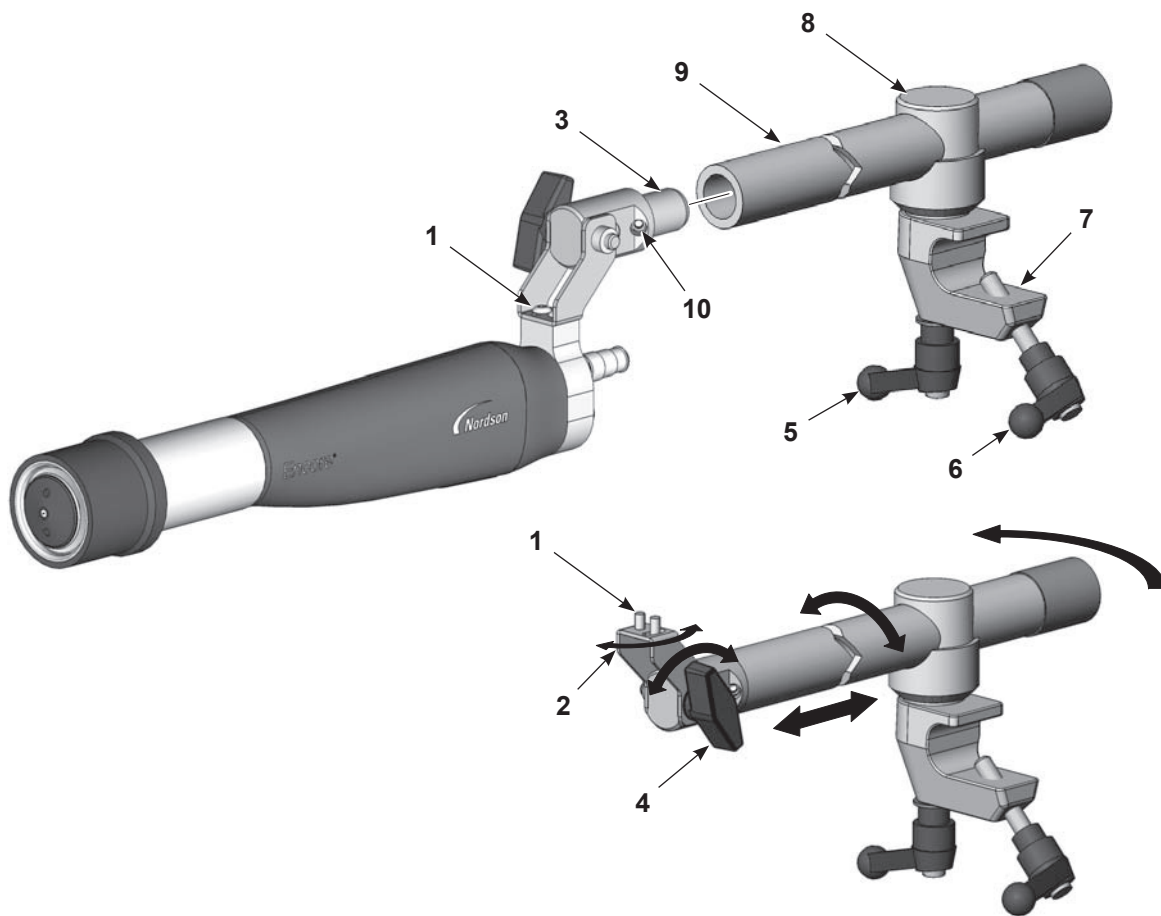
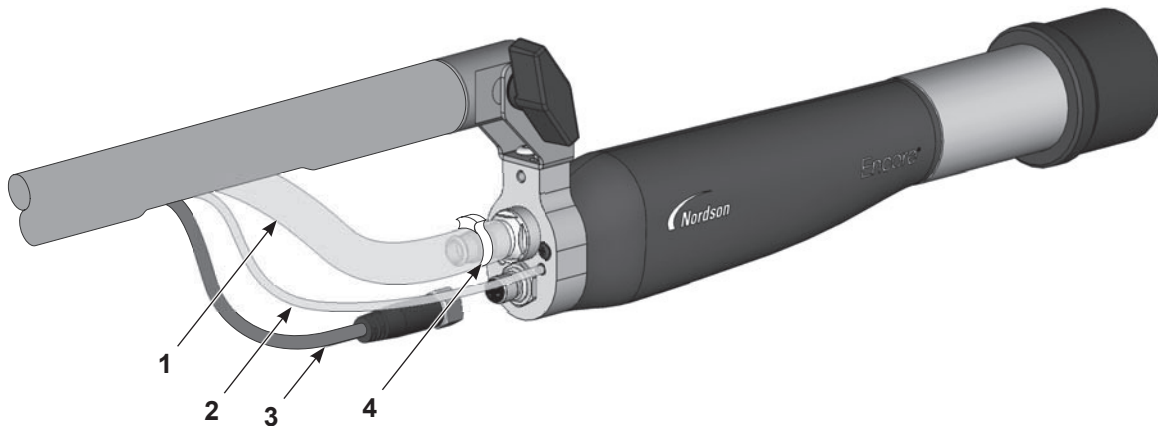

Figure 3 Standard Articulated Bar-Mount Gun Mounting
Figure 5 Gun Connections
1. See Figure 3. Install the tube adapter (3) into the end of the adjusting rod (9) and secure it by tightening the set screw (10) with a 4-mm hex key.
- To move the gun tip from side to side, loosen the right button screw (1).
- To tilt the gun tip up or down, loosen the tilt knob (4).
- To rotate the adjusting rod or slide the adjusting rod forward or back, loosen the locking handle (5).
2. Position the clamp (7) on a 1 inch mounting bar and tighten the clamp handle (6).
3. Bundle the powder hose, 4-mm clear electrode air-wash tubing, and gun cable together and secure them to the adjusting rod with Nordson Velcro straps. Connect them to the spray gun as shown in Figure 5.
1. Unscrew and remove the knob and washer (5, 4) from the gun mounting bracket (3).
3. Slide the end of the optional tube adapter (2) into the gun mounting bracket and align the hole in the end of the tube adapter with the holes in the gun mounting bracket.
5. See Figure 5. Pull (in the following order) the gun cable, 4-mm clear electrode air-wash tubing, and powder hose through the end mounting tube and out the cutout. Connect them to the spray gun as shown in Figure 5.